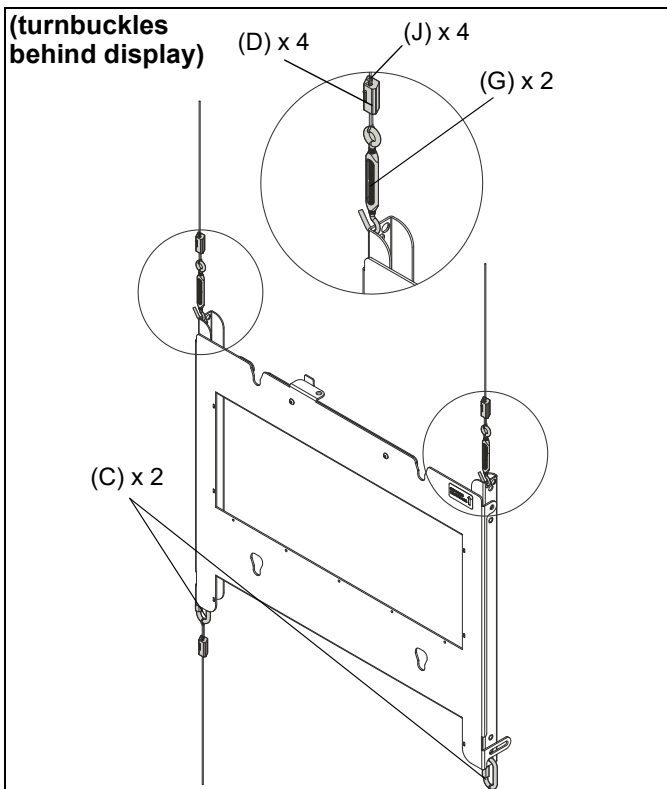

Figure 7
NOTE: If connecting turnbuckles (G) behind display, connect turnbuckles into top holes instead of connecting links (C). (See Figure 7)